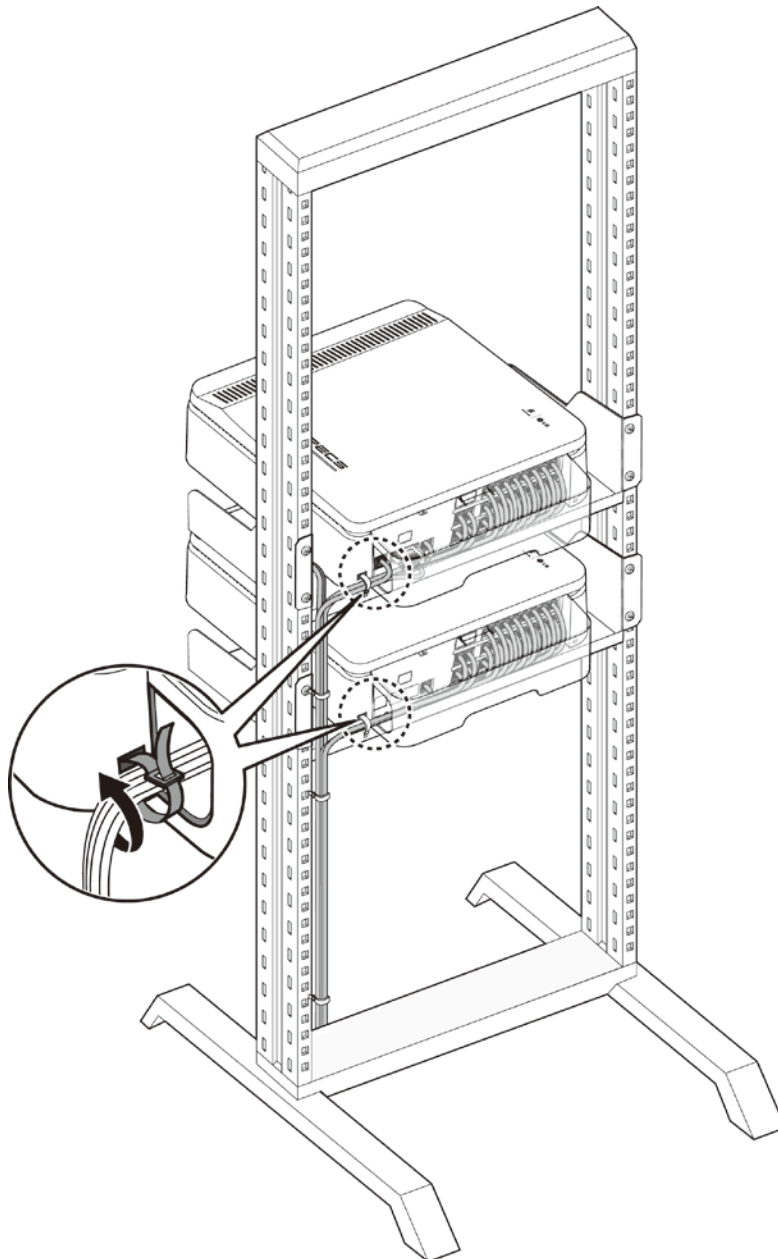

**Figure 6.9.1-1 Dressing the Wall Mount Wiring**
3. Using the supplied cable ties, tie all wiring to the slot at the bottom-right side of the KSUs as shown in Figure 6.9.1-1.